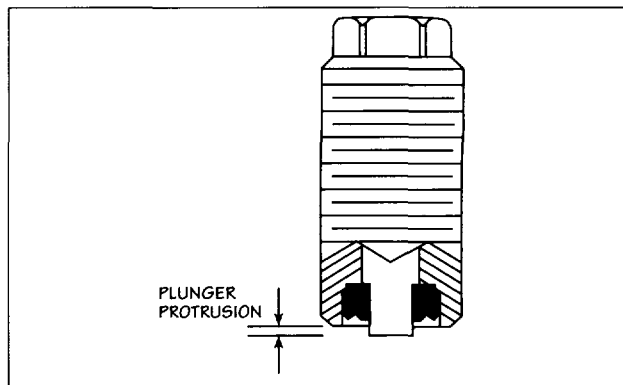

FIG. 20
2. Inspect the adjusting screw. The plunger should protrude from the bottom of the screw (Fig. 20). Approximately 10 lbs. (45 N) of force is required to move the plunger.